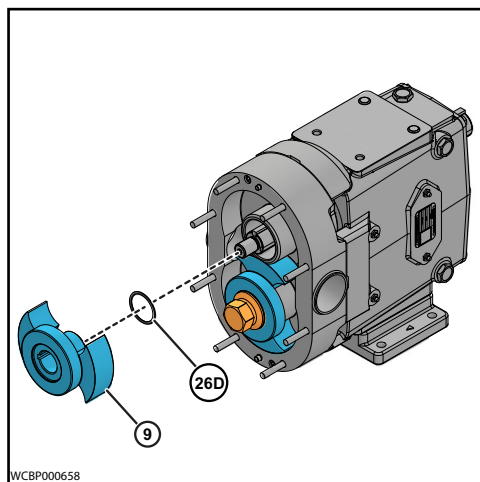

Figure 36 - Remove Overlapping Rotor
4. Using only your hands, remove the Rotor (9) which is overlapping the other rotor, as shown in Figure 36.
5. Remove the Rotor O-ring (26D) from the Rotor groove, as shown in Figure 36.
6. Place the Rotors (9) in the up-turned cover to prevent damage to close-tolerance parts.